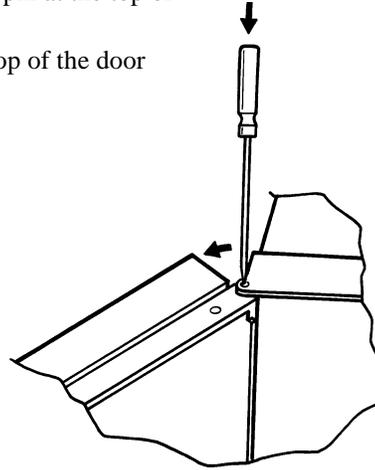

Figure 4.13.1b Door hinge pin location
- Using a small screwdriver, or similar, press down on the sprung pin at the top of the door as shown in figure 4.13.1b.